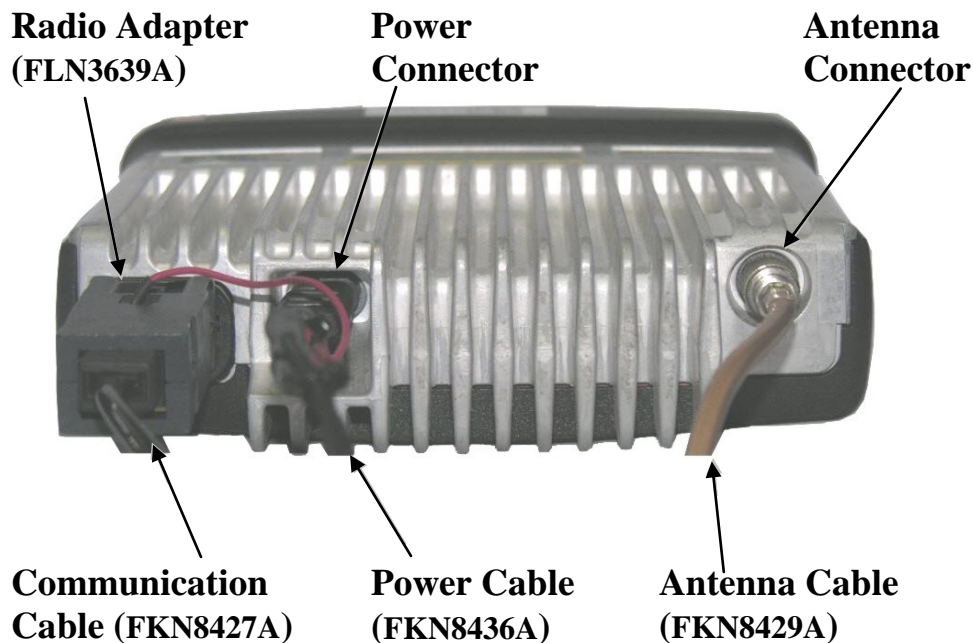
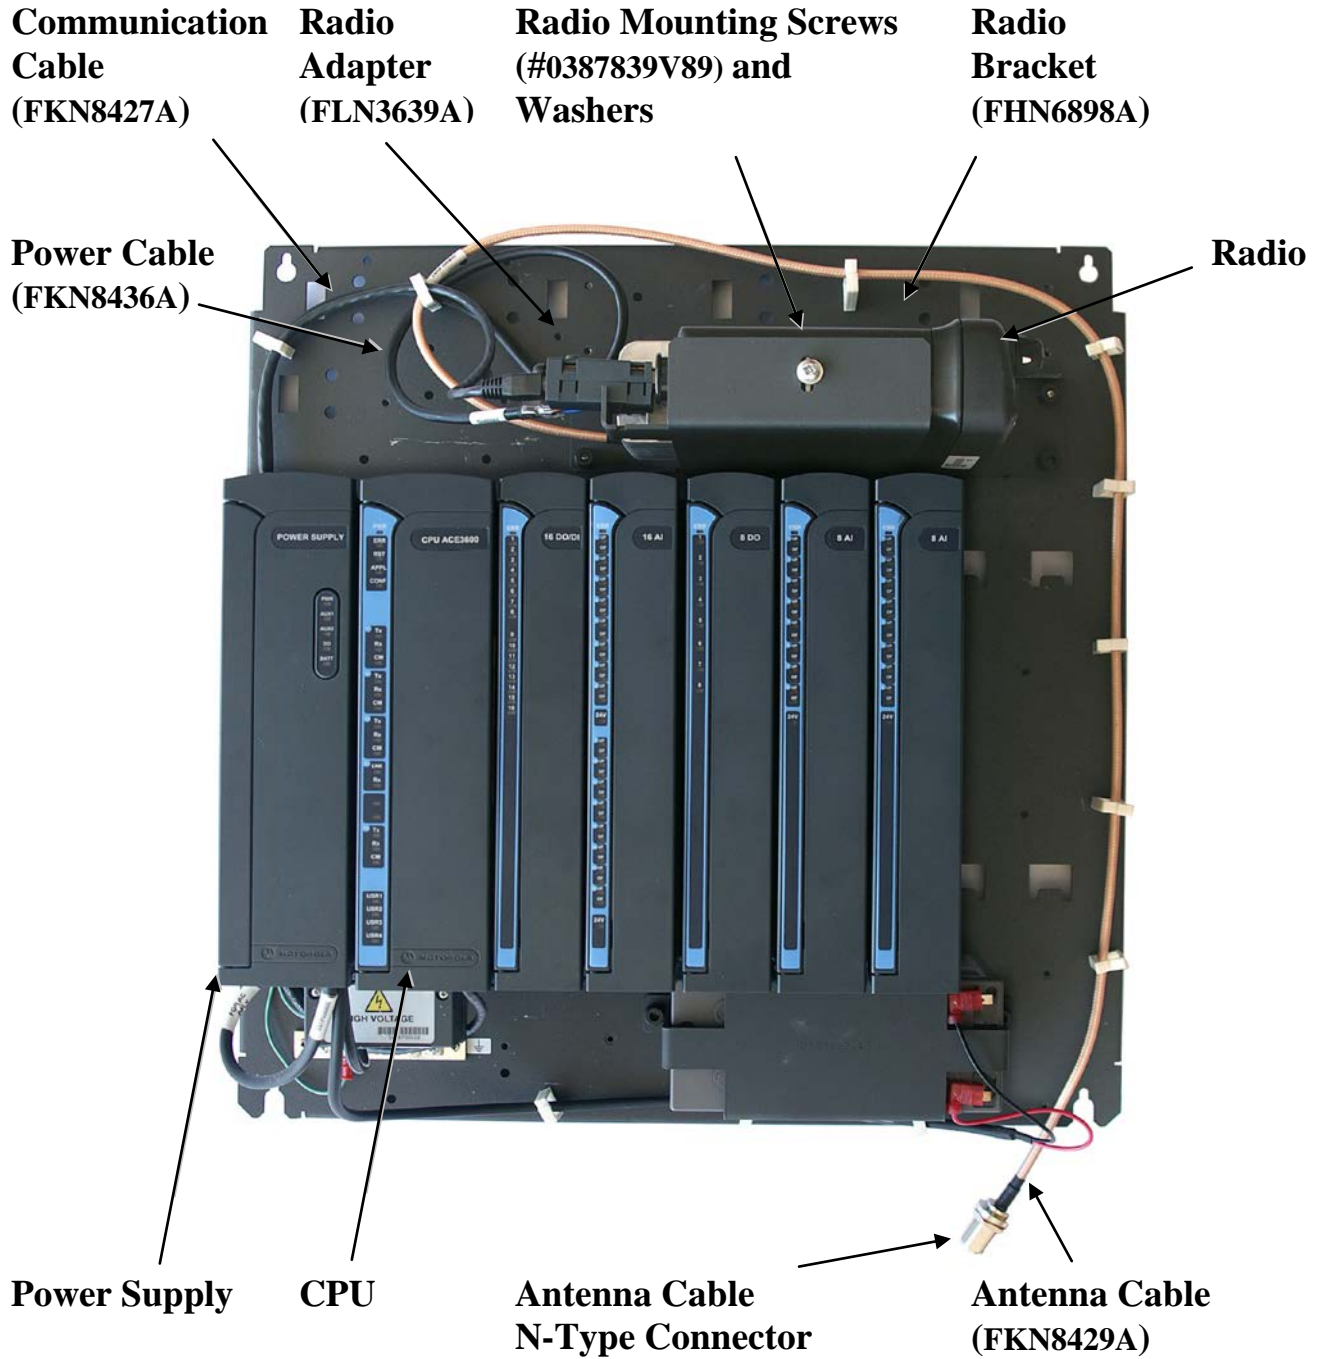

Figure 21-24 CDM750 Antenna, Power and Communication Cable Connections
Figure 21-26 CDM750 Radio Installed on ACE3600 Chassis
2. Connect the radio adapter (FLN3639A) 16-pin connector to the radio Accessory connector (See Figure 21-24.)
4. Connect the antenna cable (FKN8429A) to the Antenna connector on the radio and to the opening on the bottom of the ACE3600 RTU housing, using the four supplied screws. See Figure 21-24 and Figure 21-26.)
6. Attach the complex (radio + bracket) using the four supplied screws to the ACE3600 chassis. See Figure 21-26 below.